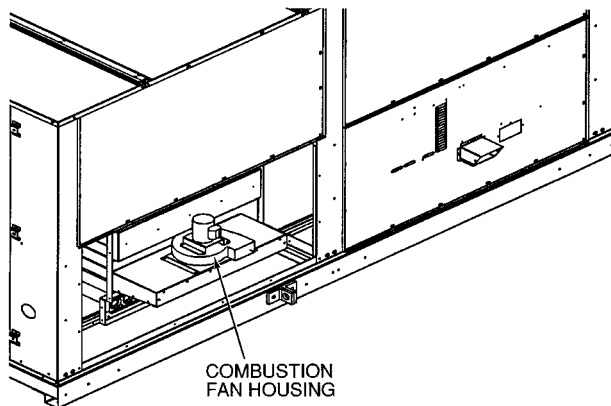

Fig. 8 — Combustion Fan Housing Location
**NOTE:** When properly installed, flue hood will line up with combustion fan housing. See Fig. 8.